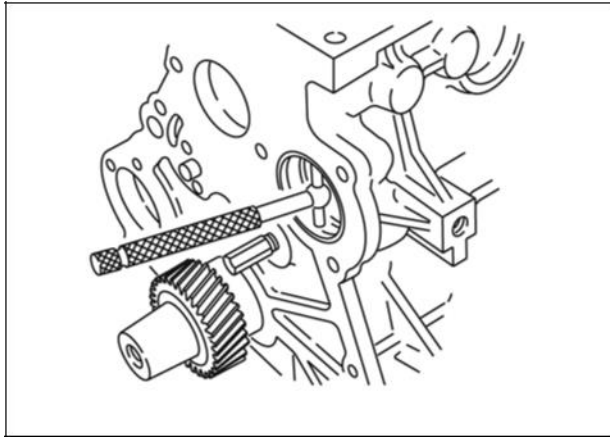

Figure 5
5. Check Camshaft bearing (Figure 5).